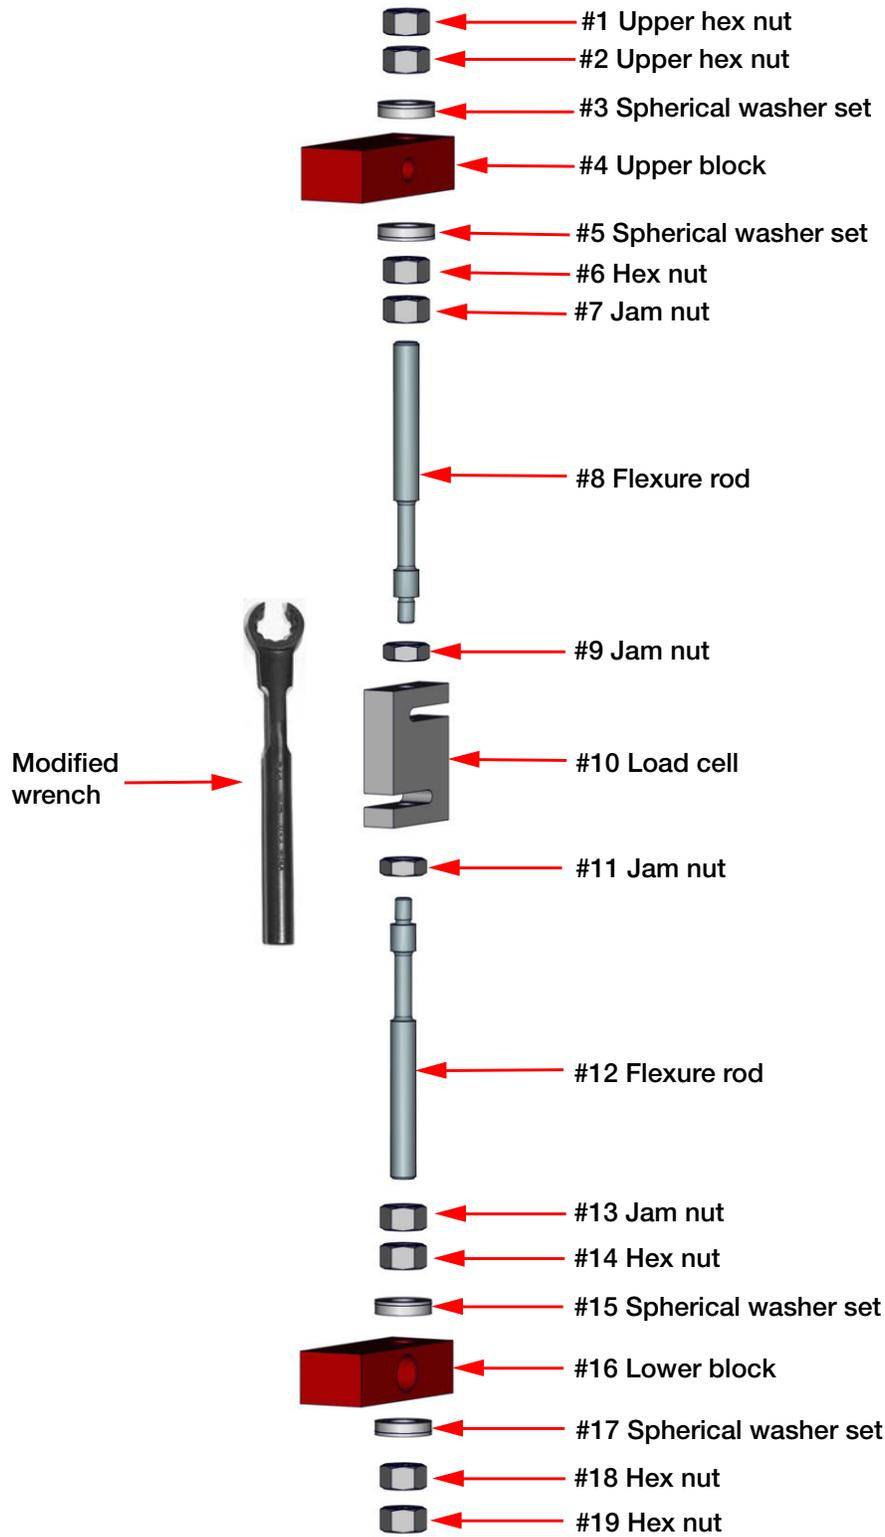

Figure 6-1. CLS-M Load Cell Assembly Parts Breakout
A replacement parts kit is available (PN 97883), which contains all of the component parts shown in Figure 6-1.
5. Loosen jam nut (#7) from the upper block using the special modified box wrench (PN 96196 - supplied with load cell replacement kit) and shown in Figure 6-1.
20. Insert the load cell and thread flexure rods into top and bottom of the load cell making sure the appropriate hex nuts, jam nuts, and spherical washers are in the correct order per (See Figure 6-1).